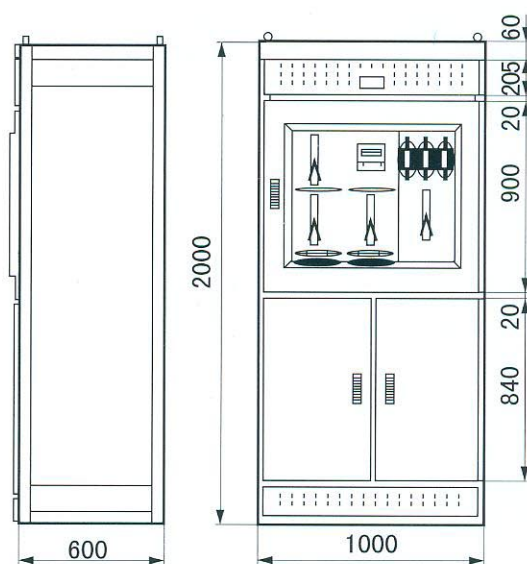

图2 PJ1-0.38电能计量配电柜外型图
- ◆ PJ1-0.38柜体尺寸: 1000 (宽) × 600 (深) × 2200 (高), 外形见图2。
- ◆ PJ1 - 0.38: 1000 (Width) × 600 (Depth) × 2200 (Height); refer to Fig. 2 for overall.